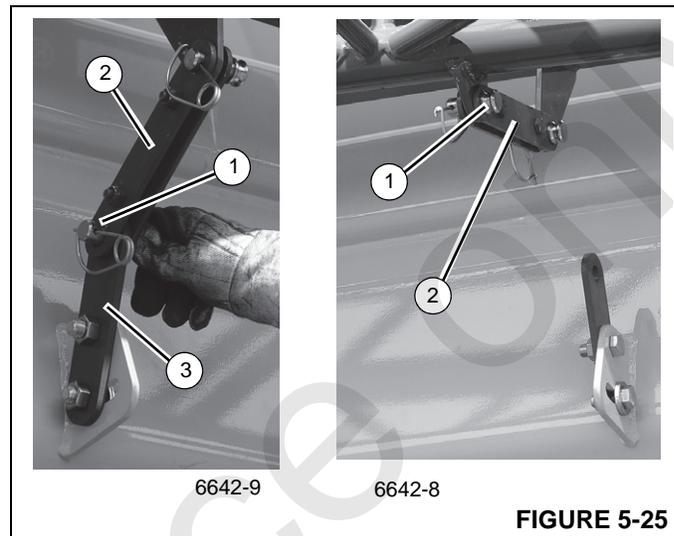
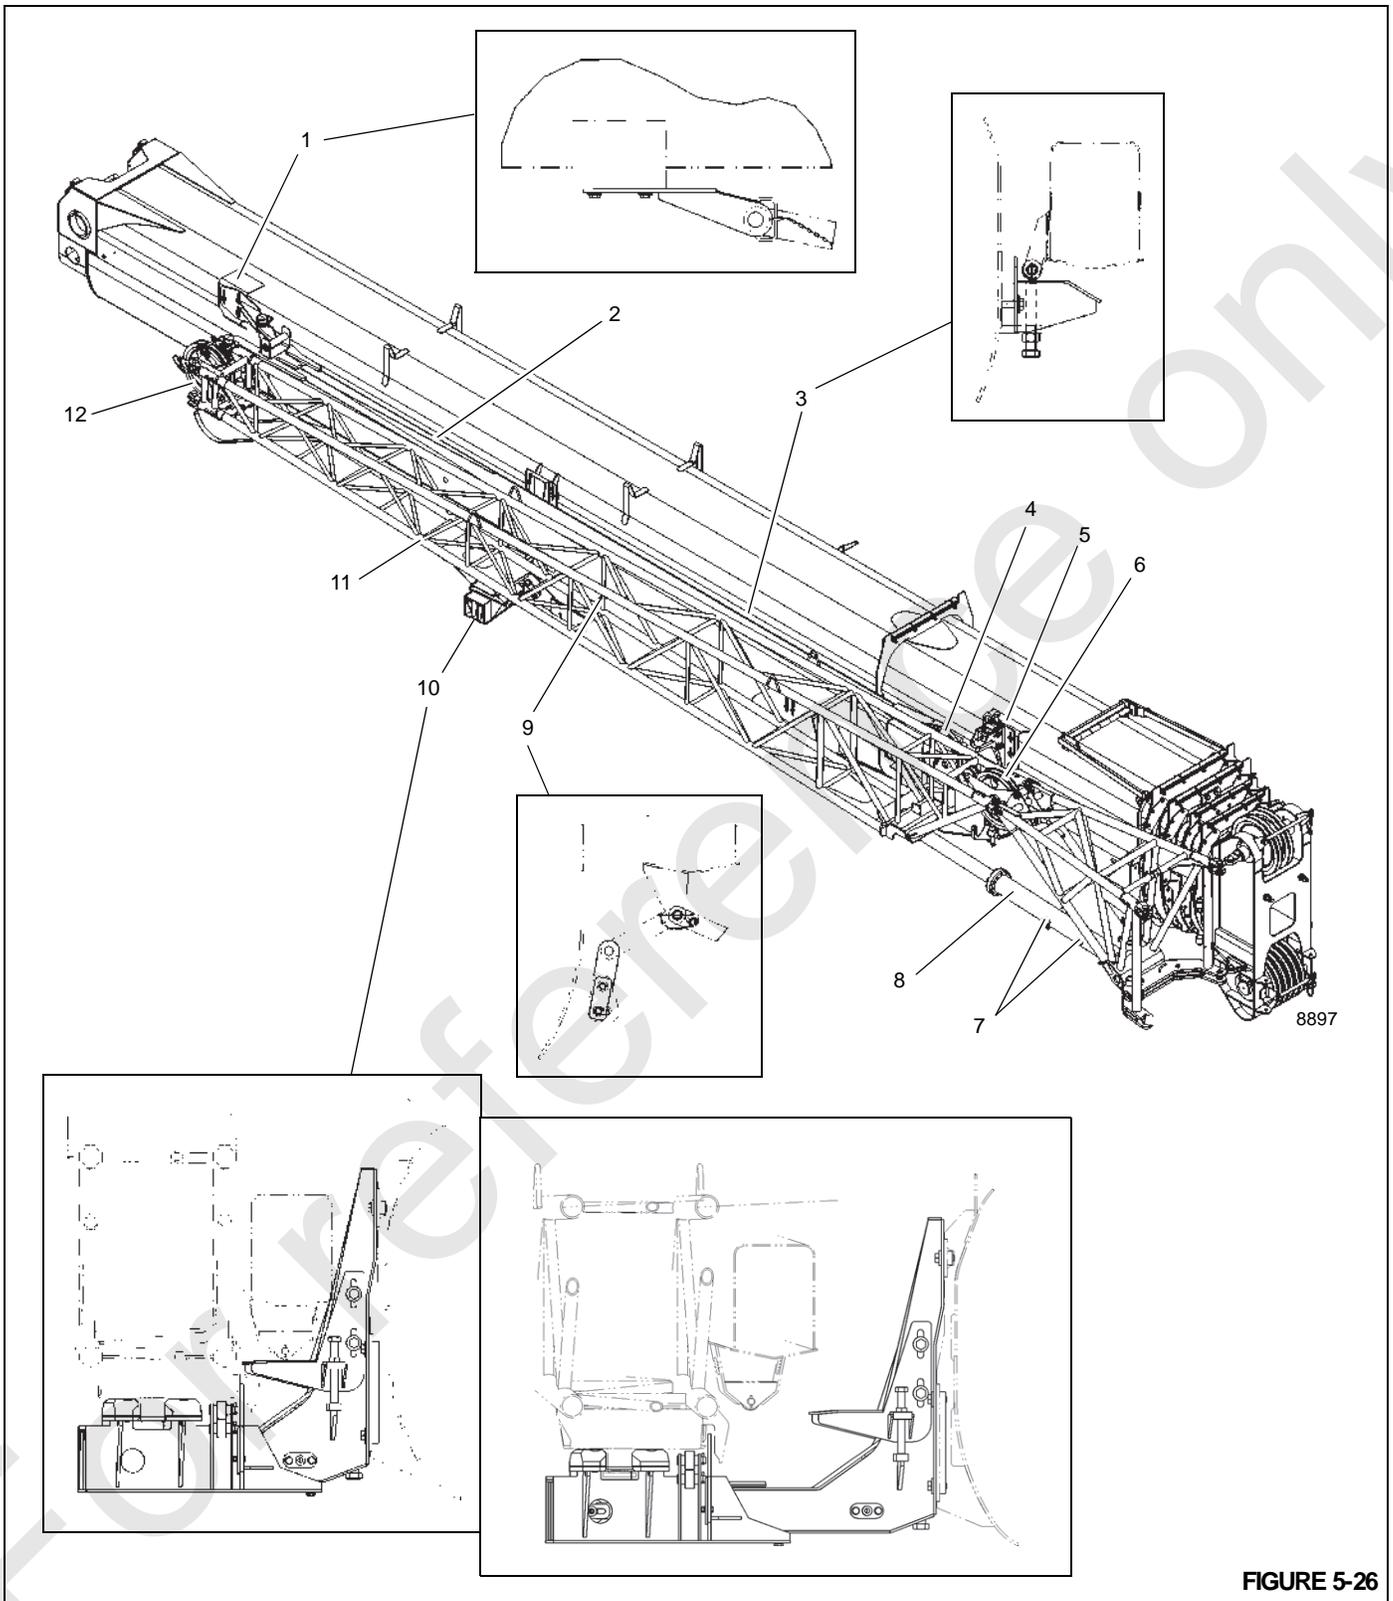

FIGURE 5-25
FIGURE 5-26
Remove the clip pin and cable retaining pin at the mast sheave (6, (Figure 5-26)), then remove the hoist cable. Reinstall cable retaining pins and secure with clip pins.
- e. Connect locking bar (9, (Figure 5-26); 1, Figure 5-22) to boom extension base section attachment bar (2) using pin (3). Secure with retaining clip.
- 17. Extend boom approximately 12 in so boom extension base section stowage lugs will line up in front of the middle stowage bracket guide ramp (10, (Figure 5-26)) and stowage pins (14, (Figure 5-26)) on the front stowage bracket assembly (5, (Figure 5-26)) when the boom extension is positioned to the side of the boom base.
- 24. Secure boom extension base section to front stowage bracket (5, (Figure 5-26)) on boom base using lock hitch pin (13, (Figure 5-26)). Ensure lock hitch pin is pushed in all the way, then secure with retaining clip.
27. Using control pendant, fully retract middle stowage bracket (10, (Figure 5-26)).
28. Ensure the two stowage lugs on the boom extension base section are fully engaged with the pins (14, (Figure 5-26)) on front stowage bracket (5, (Figure 5-26)).
29. Secure boom extension fly section to rear stowage bracket (1, (Figure 5-26)) on the boom base using the attachment pin. Secure attachment pin with retaining clip.
31. Remove pin (1, Figure 5-25) from boom base attachment bar (3). Move locking bar (2, Figure 5-25; 10, (Figure 5-26)) to boom extension base section and install pin (1). Secure with retaining clip.
FIGURE 5-26 continued